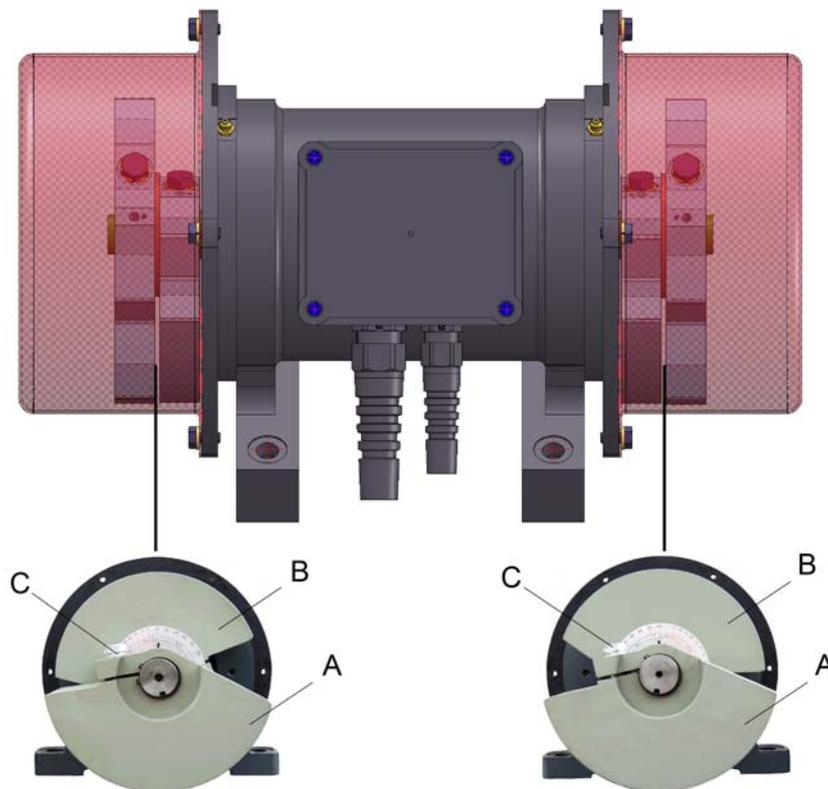

Fig. 7: Setting the centrifugal forces
JX 10: For the setting each outer flyweight (A) can be turned against the inner flyweight (B) after unscrewing the locking screw (C) (see fig.7).